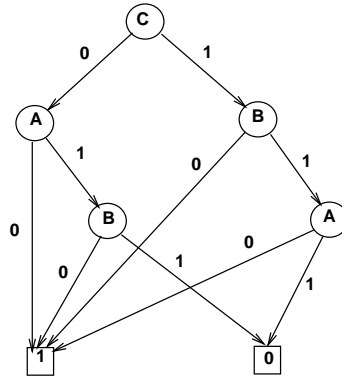

Figure 1: BDD for fault detection.
- (a) (6 points) BDD representation of a circuit with three inputs, A, B, and C, and one output is given below in Figure 1.